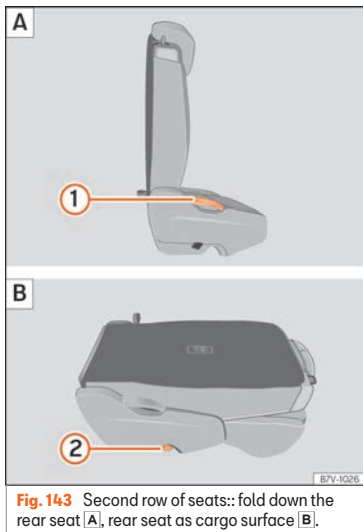

Fig. 143 Second row of seats: fold down the rear seat **A**, rear seat as cargo surface **B**.
- Remove objects from the footwell in front of and behind the rear seat » ❶.
- Pull lever » Fig. 143 ❶ back and fold the seat backrest forwards. The complete rear seat folds forward » ❷.
- Fold the seat backrest forwards until it locks into the load surface position » Fig. 143 ❷.
- Pull lever »» Fig. 143 ❶ upwards and place the seat backrests in vertical position. The entire seat folds backwards.